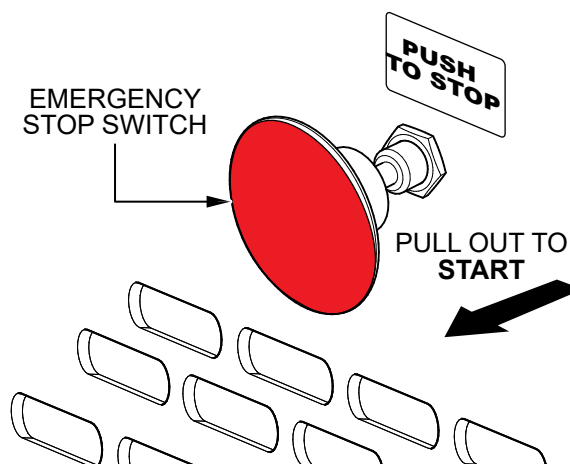

Figure 21. Emergency Stop Switch (START Position)
4. Locate the emergency stop switch (Figure 21) on the engine cover. Pull this button outward to allow engine starting.